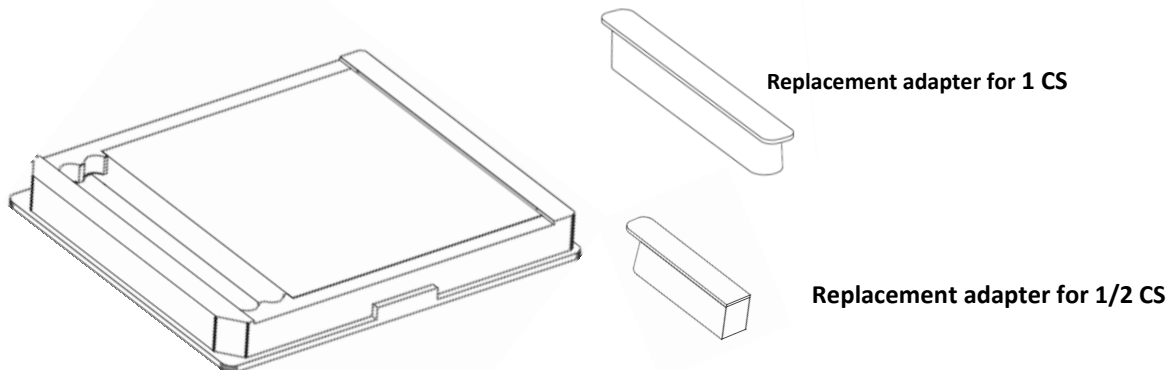

Figure 3. Microtiter plate and set of magnetic adapters for visualization of a number of samples multiple of four.
For small numbers of samples, a pre-cut format of the 8-well CS might be provided, which enables cut the strip into two identical halves and visualize samples in multiples of four. In such a case, a reusable Microtiter plate adaptor and a set of magnetic adapters will be provided to allow immobilization of the four-wells strips (see figure 3).
- Microtiter plate and set of magnetic adapters to insert already cut four-well CSs (Figure 3).